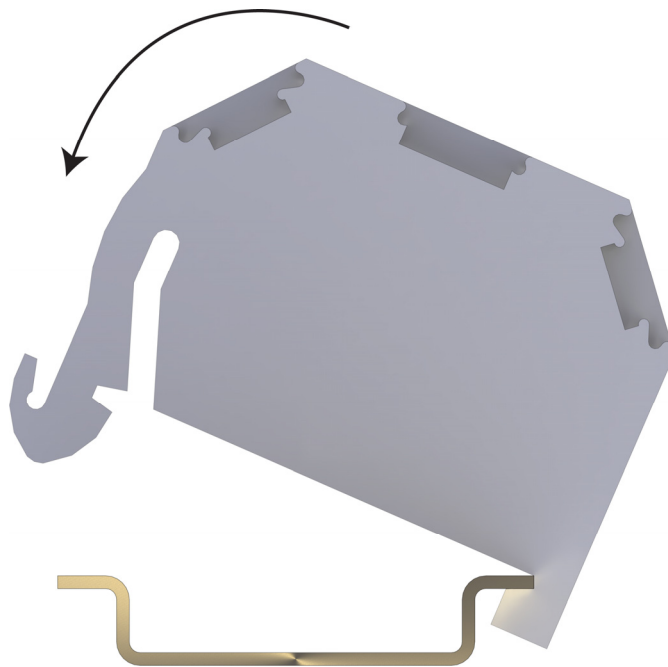
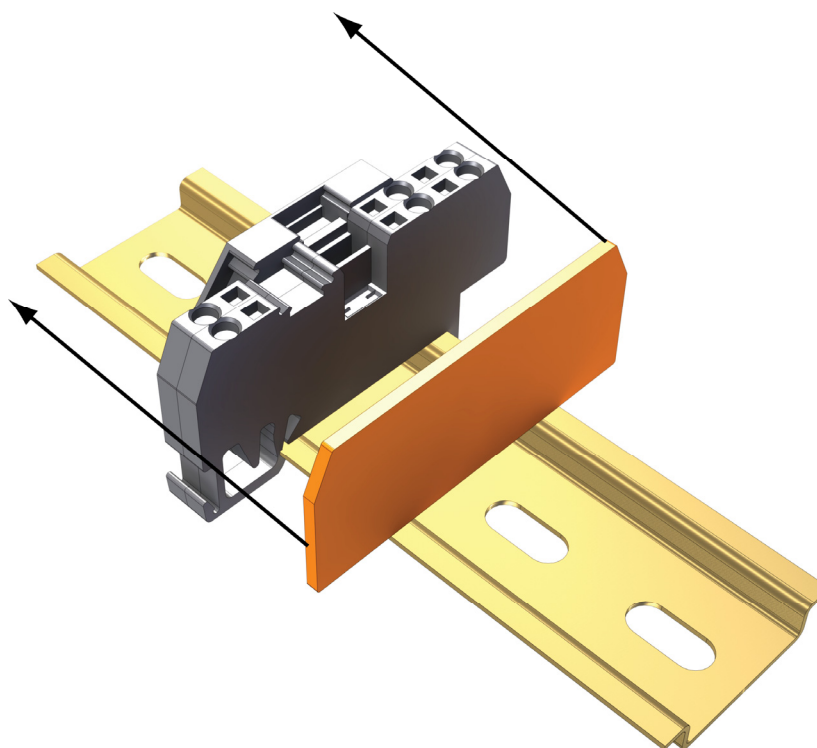

FIGURE B-1. 15908 DIN-Rail Stopper installation
FIGURE B-3. 15907 End Plate installation
1. Mount the 15908 DIN-Rail Stoppers, 15920 Terminal Strips, and 15907 End Plates onto the DIN-Rail Bracket (see FIGURE B-1 through FIGURE B-3).